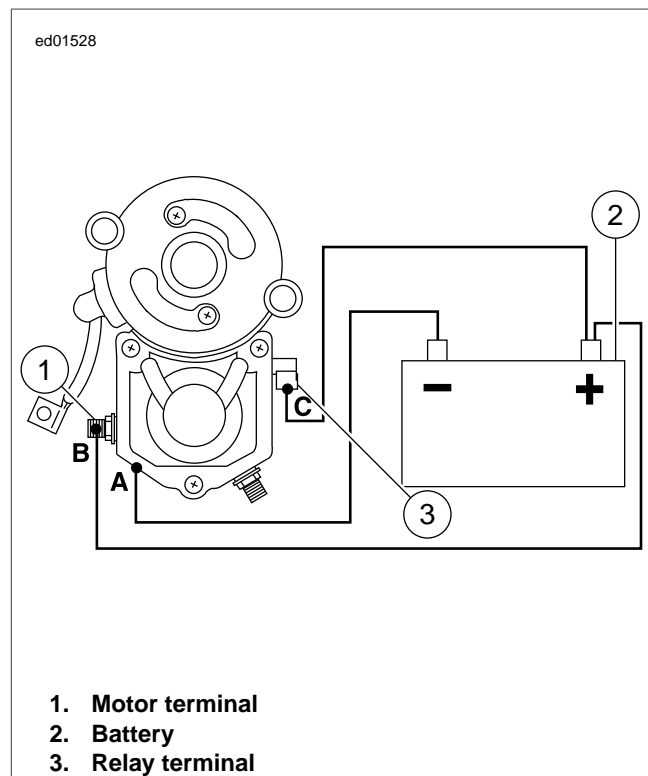

Figure 1-14. Test 2: Hold-in Test
1. See Figure 1-14. With test leads still connected in the manner specified in the previous 1.8 TESTING STARTER ON BENCH, Solenoid Hold-In Test, disconnect solenoid motor terminal/battery negative test lead (B) at negative battery post only; reconnect loose end of this test lead to positive battery post instead.